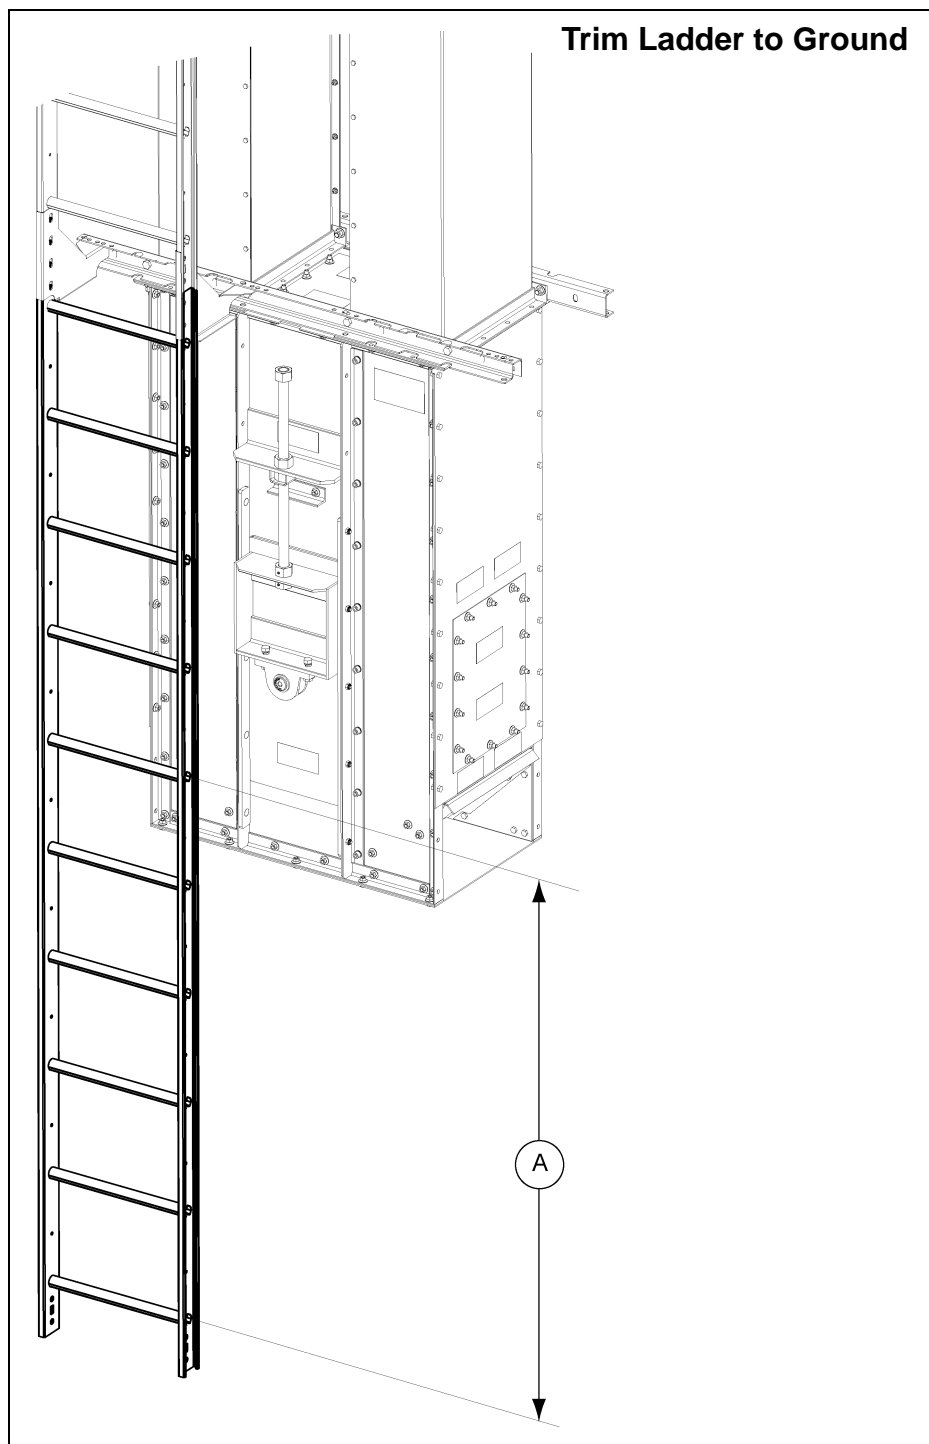

Figure 6G
1. Trim a 10' ladder section to sit so that the first ladder rung is 12" from the ground. (See Figure 6G.)